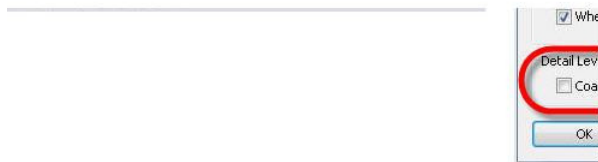

Figure 46. Setting the display of objects based on detail level.
2. Select the frame component and Click the Visibility Settings tool from the ribbon as shown in Figure 46. Clear the check mark for the “Coarse” Detail Level as shown in Figure 46 and Click OK.